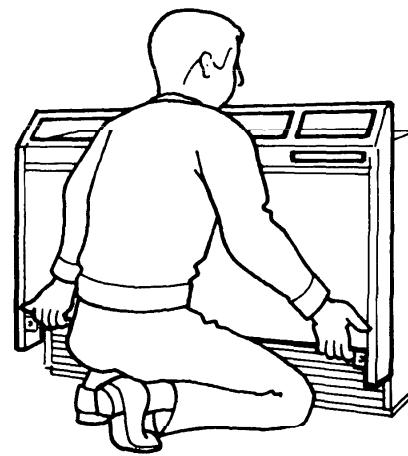

Fig. 2
- ② Pull the bottom part of the front panel towards you and then lift to remove the front panel. Fig. 2